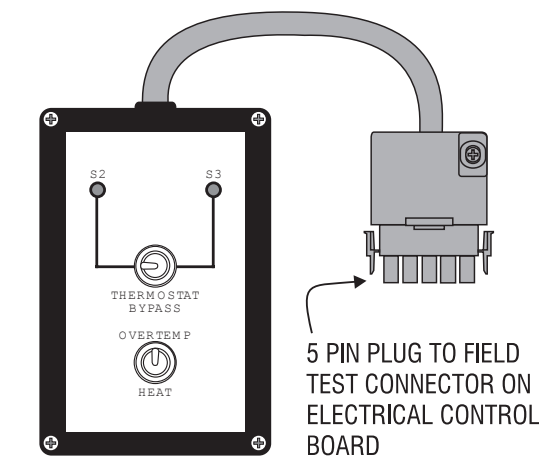

Figure 5 - Test Tool\* (P/N 08606000) (for schematic, see figure 12, p. 27)
3. Connect the Test Tool (fig. 5) to the 5-pin field test connector on back of the PC board and route the Test Tool cable out through the opening in the bottom of the unit (see fig. 10, p. 25). Close the two halves of the enclosure and temporarily secure it closed with adhesive (duct) tape. Plug in the power unit.